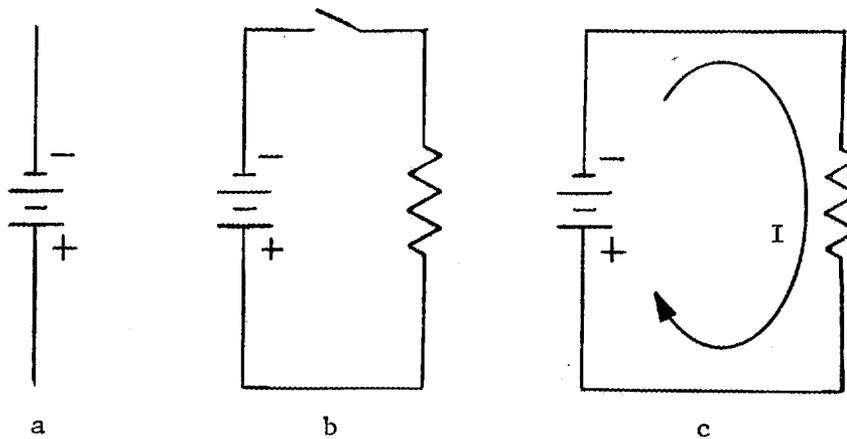
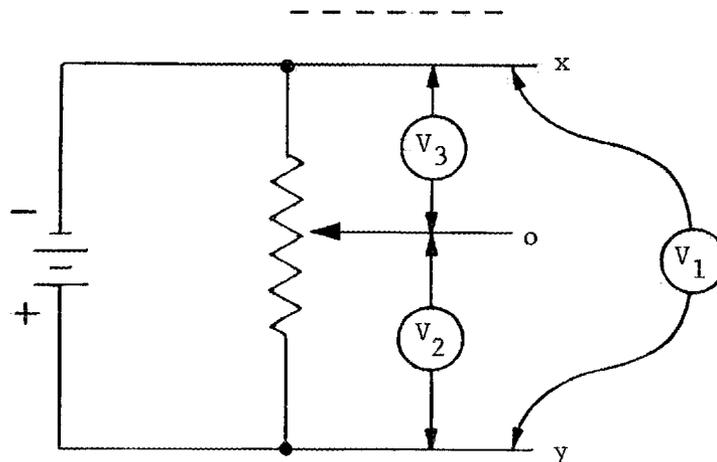

Fig. V-6. Open and Closed Circuits
Fig. V-7. Electric Circuit with a Potentiometer
87. In Part a of Figure V-6, there is a potential difference between the poles that is measured in _____. We would call it an open circuit voltage. There is no current because the two poles are not connected by a suitable conductor. Air is a very (poor, good) conductor. In fact, air would be considered a good _____.
88. In Part b of Figure V-6, there is still no current because the air gap in the open switch is a good _____.
89. However, when we close the switch, electrons begin to move from the _____ pole to the _____ pole through the conductor and resistance in the direction shown by the curved arrow in Part c of Figure V-6.
96. So, if the resistance as indicated in Part b of Figure V-6 (with the switch closed) becomes 2 ohms while the voltage remains 20, the current will be _____ amps. increases
97. Now let us replace the fixed resistor with a device called a "potentiometer". As indicated in Part c of Figure V-6, this device is a fixed resistor with an additional contact that can be moved along the resistor from end to end. (The volume control on a radio receiver is one form of potentiometer).
98. We have redrawn Part c of Figure V-6 for convenience (See Figure V-7). If we place a voltmeter (V_1) between x and y, it will read the same voltage as the battery. According to Ohm's Law, the voltage will be the product of the current through the resistor and the resistance of the resistor:
99. Voltmeter V_2 in Figure V-7 is connected across only part of the resistance of the potentiometer and will read a potential difference that is equal to the product of that part of the resistance (below the arrow) and the current through it. The current through the whole resistance of the potentiometer is (more than, less than, equal to) the current through the part of the resistance across which V_2 is connected. The voltage read by V_2 is (equal to, less than, more than) that read by V_1 .